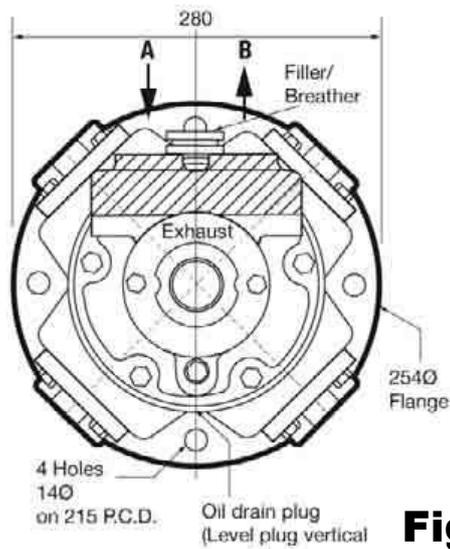
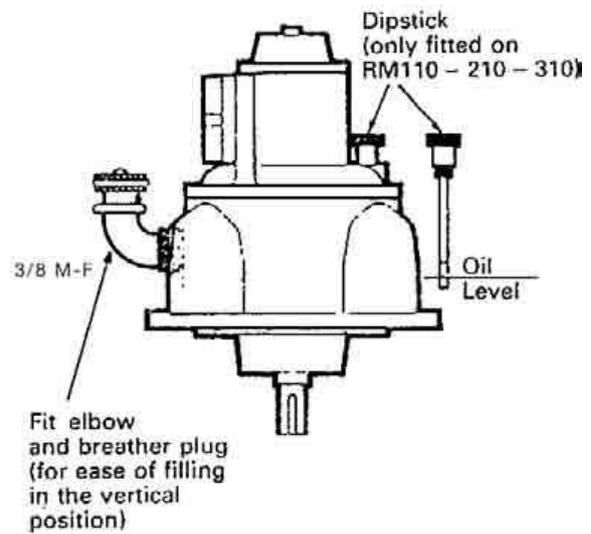

Fig. 1
Fig. 2
The motor is normally mounted in a horizontal position with the filler/breather plug towards the top (Fig. 1, page 5). It may also be mounted with the shaft vertically downwards (Fig. 2, page 5). Before the motors are supplied, the manufacturer tests the motors by running them using protective oil and then draining them for transit. Test certificates are attached to the filler/breather plug and should be kept. **It is vital that each motor is mounted in the correct orientation (vertically or horizontally) and re-filled to the correct oil level as shown on the following page.** The RM110 — RM310 motors have a dipstick for vertical mounting (fig. 2) and the lower mark on this dipstick provides the oil level. Oil levels are achieved on motors in the horizontal position by filling to the plugs (60) fitted in housing (3) (RM110 to RM410) and plug (26) fitted to the top face of engine case (27) (RM510 and RM610). The RM410, RM510 and RM610 motors have a combined horizontal drain and vertical level plug (add oil until this level has been reached) (26). To fill motors with oil remove the combined breather and oil filler plug (46). Ensure breather plug is in the vertical position. It may be necessary to fit an elbow between the breather plug and the motor (see fig. 2).